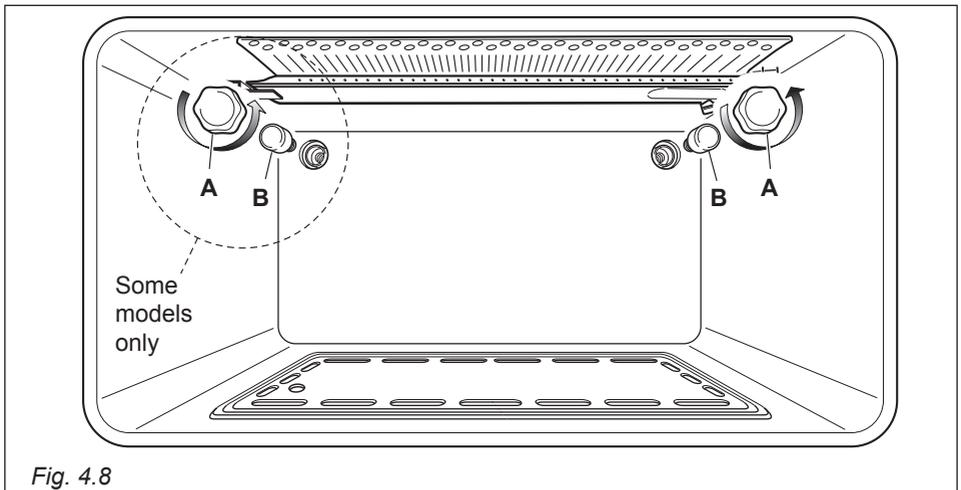

Fig. 4.8
- Remove the protective cover "A" (fig. 4.8);